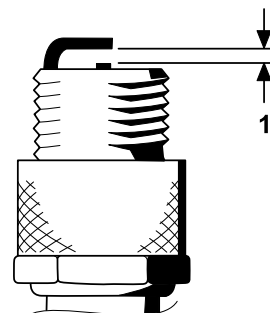

Figure 43
4. Set the air gap between the center and side of the electrodes at 0.76 mm (0.030 inches) as shown in Figure 43.